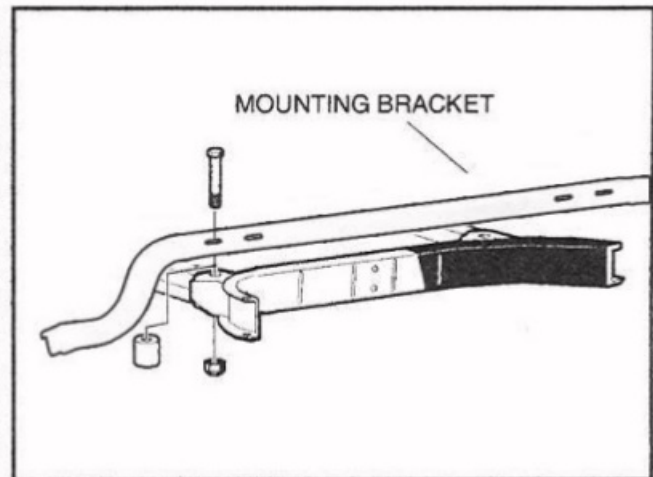

Figure 8 Install Mounting Bracket
- 4.2. Bring the mounting bracket to rest on the bag hoop (Figure 8). Check the canvas between the tracking bar and the lower eyelet. If the canvas appears tight, add spacers as required to raise the bracket until no tension remains in the canvas.
- 4.3. Install two 1/4-20 x 3-1/2 hex head cap screws, spacers as needed, and two nylon lock nuts (Figure 8). Tighten the hardware to 45 in-lb (5.1 N-m).